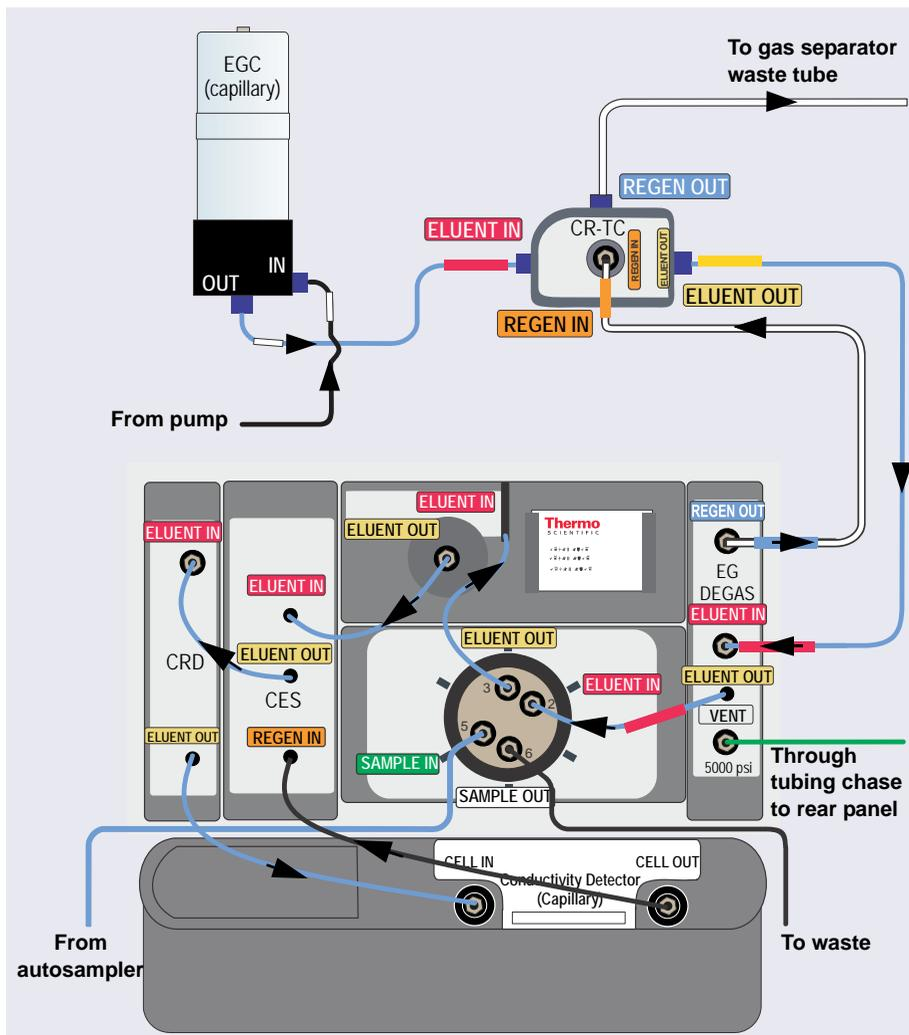

Figure 4-16. Flow Schematic for Equilibration and Operation of a Conductivity Detection System with a CRD Installed
1. Connect the CES **ELUENT IN** line to the column **ELUENT OUT** port (see Figure 4-16).